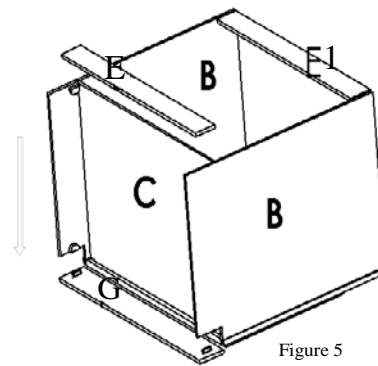

Figure 5
4. Installing the Back Braces and Toe Kick (Figure 5): Put the top back brace (E1) and the bottom back brace (E) at the rear of the side panel (B). Align them and lock each cam lock. Install the toe kick (G) by locking the cam lock at both ends.